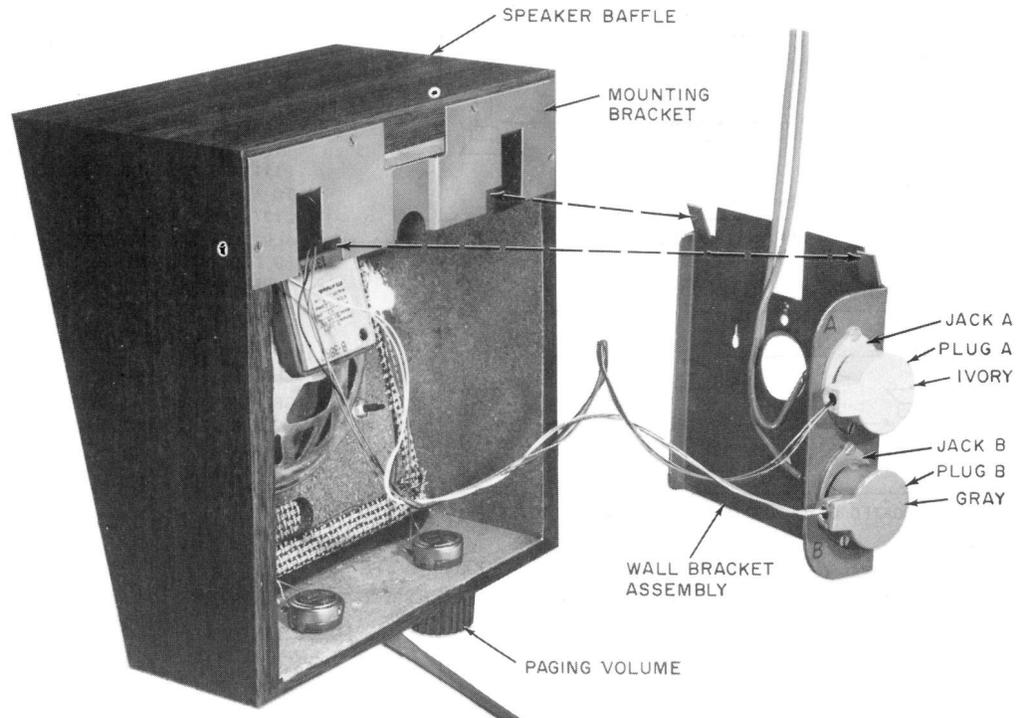

Fig. 23—▶109A Loudspeaker Set With Wall Bracket Assembly◀
(1) Mount the wall bracket assembly (Fig. 23 and 24) at the desired location. This assembly is mounted directly to a flat surface or an outlet box. Use appropriate fasteners per BSP 080-720-105.
- (1) Connect +V, COM, and DSS to jack A (ivory) of the wall bracket assembly (Fig. 23) per Table F.
- (2) If music is provided, connect terminals 5 and 6 of the 33A voice coupler to terminals R and G of jack B (gray) of the wall bracket assembly (Fig. 23) using inside wire.
- (3) Connect plug A of loudspeaker into jack A of wall bracket assembly and plug B into jack B, ivory to ivory and gray to gray, respectively (Fig. 23).
- (4) Slip the speaker baffle mounting bracket over the mounting clips on the wall bracket assembly and pull the speaker down until it is firmly held (Fig. 23).